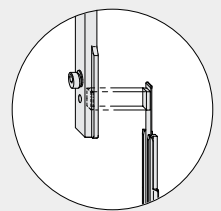

Figure 1
- F** Screw ESG LM M6 (28) and operating rods S1 and S2 together using coupling screw M6 (27) (PZ 2, torque  $2.75 \pm 0.25$  Nm).
- > G** Couple corner drive VSU/BSO (36) with locking bolt (35). Make sure positioning of coupling piece for corner drive VSU/BSO (36) is correct (Figure 1).
- > H** Couple VSO (33) with operating rod S3 and secure using clamping piece EUL (34).
- I** Attach handle LM (1a) and handle support LM (38) with cheese head screw M5 x 12 (26) (torque  $2.5 \pm 0.25$  Nm). Make sure the handle catch closes into the coupling bracket (25).
- J** Attach window handle (1b) to ESG LM M6 (28) using countersunk screw PZ M5 x 35 (29) (PZ 2, torque  $2.5 \pm 0.25$  Nm).
- K** Screw stay hinge (11/17) and stay LM 4200-D (20) together using countersunk screw M5 x 7 (10/16) (torque  $2.5 \pm 0.25$  Nm), press stay LM 4200-D (20) horizontally onto the BSO as far as it will go and fasten with punching screws (torque  $2.5 \pm 0.25$  Nm).
- L** Press bottom hinge pin (2) into corner hinge (5) DIN right or DIN left.
- M** Insert clamping piece E (6) vertically on the BSU and attach corner hinge (5) using countersunk screws M5 x 8.5 (4) (torque  $2.5 \pm 0.25$  Nm).
- N** Insert corner hinge right/left (13) in the sash groove and fasten with the pre-installed countersunk screws M5 x 8.5 (torque  $2.5 \pm 0.25$  Nm).
- > O** Insert locking bolt (31) centrally on the BS and fix in place with grub screw (torque  $1.5 \pm 0.25$  Nm).
- 1) Processing dimensions for handle LM (1a) see Figure 1